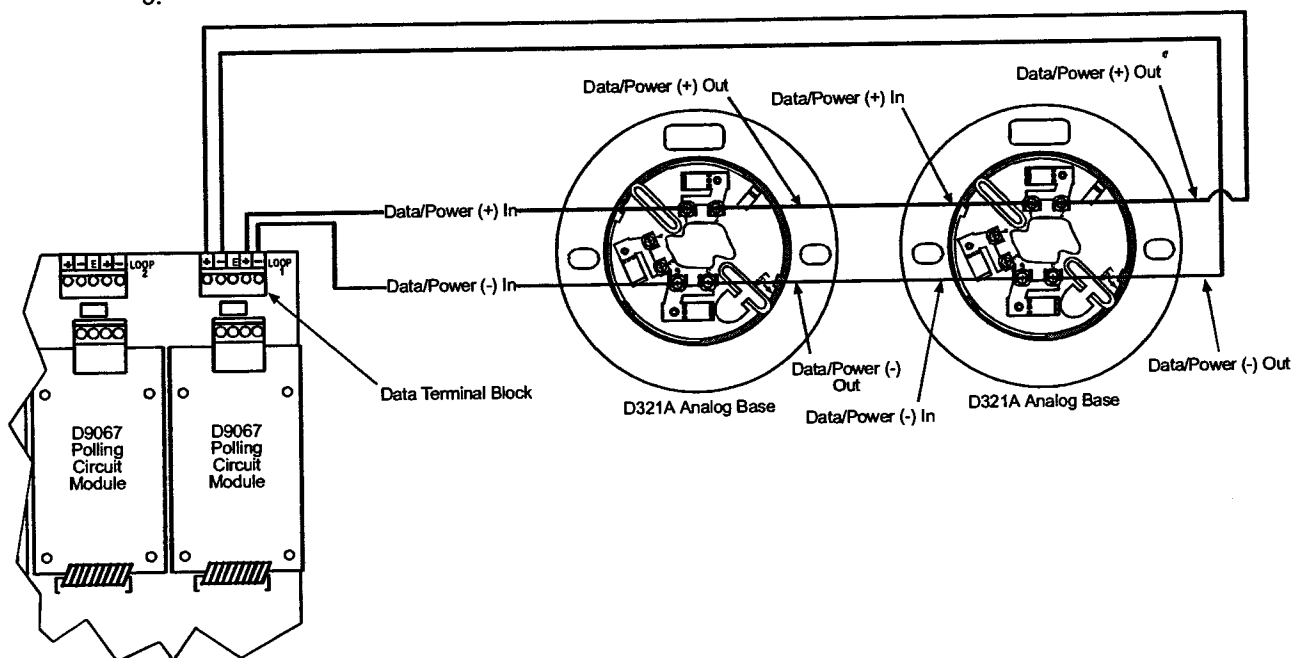

Figure 3: Class A, Style 6 Circuit Connections
- 4) Connect the drain wire for shielded cable to the (E) terminal (earth ground) on the data terminal block. See Figure 3.